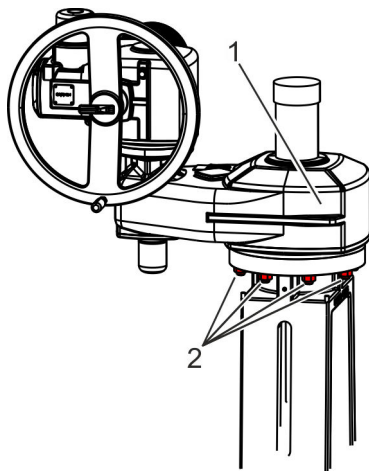

Fig. 25: Removing the screws
2. ➔ Unscrew the fastening screws (Fig. 25/2) of the electric actuator (Fig. 25/1) and remove them together with the washers.
3. ➔ Take off the electric actuator (Fig. 25/1) and store it outside of the work area.